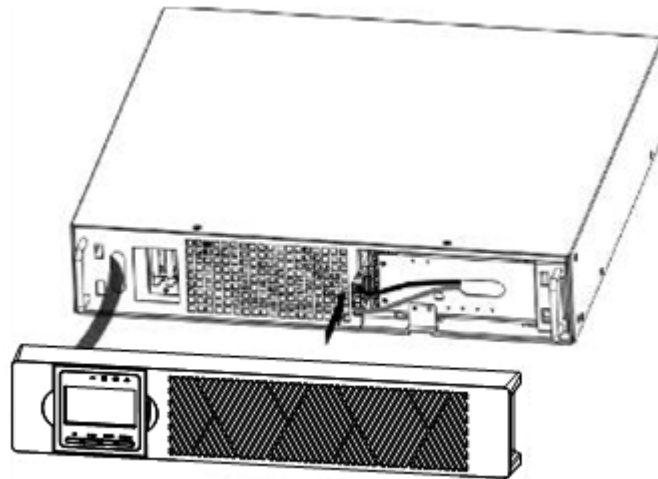

Figure 5 Connecting the UPS Internal Batteries
- b) Connect the internal battery connector(see Figure 5)